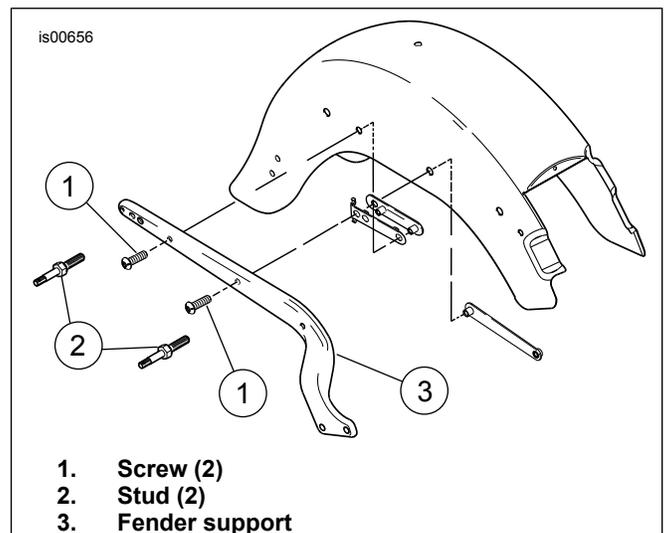

Figure 3. Replace original equipment screws with studs.
5. Install saddlebag mounting bracket (2) on frame with footpeg support (3) and Torx® screw (4) previously removed. Position saddlebag mounting bracket so it is horizontal to ground. Do not tighten Torx® screw until saddlebag is installed.
6. See Figure 3. Remove and discard original equipment screws (1) from fender support.
7. Install studs (2) on fender support (3), with the shorter threaded end first. Tighten studs to 21-27 ft-lbs (28.4-36.6 Nm).